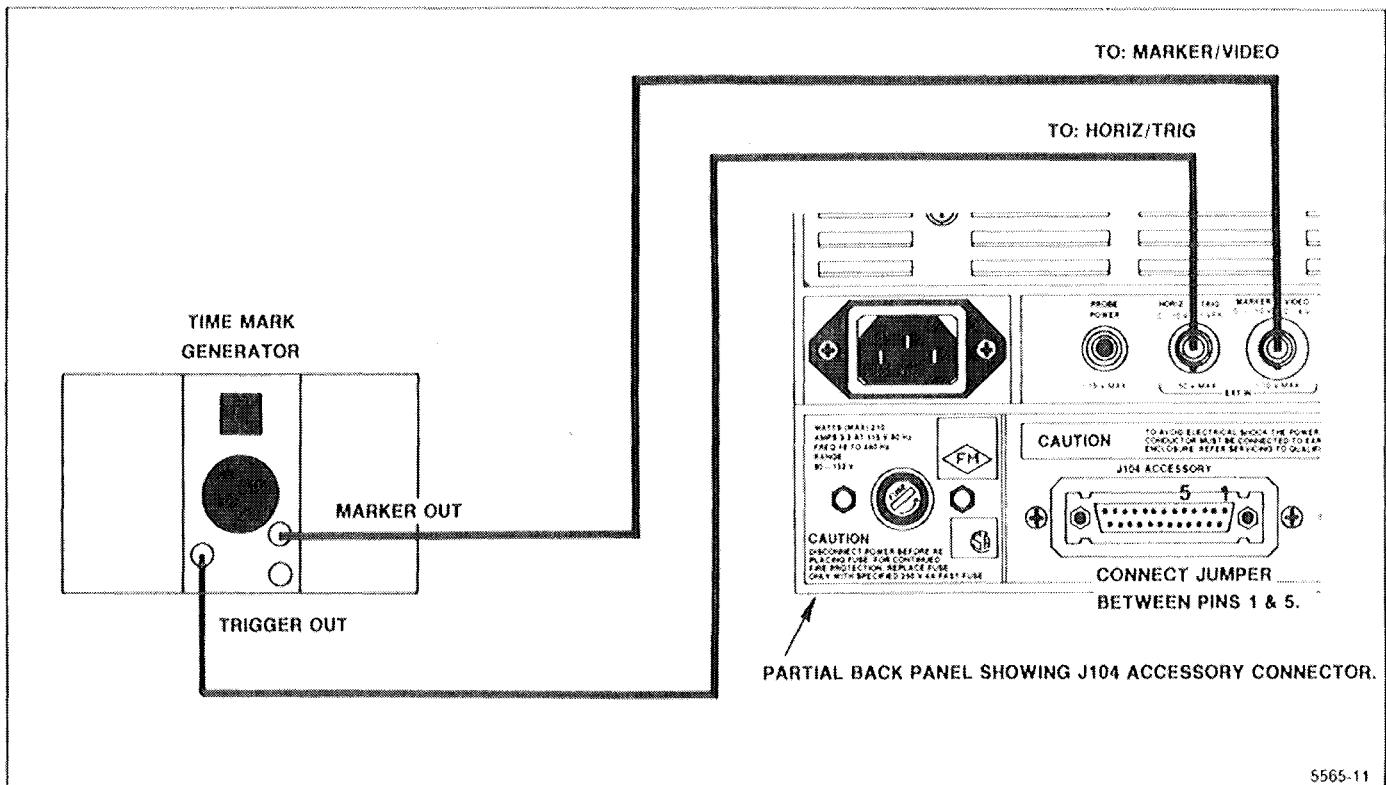

Figure 5-8. Test equipment setup for adjusting sweep timing.
a. Connect the test equipment as shown in Figure 5-8. Set the following Spectrum Analyzer controls: